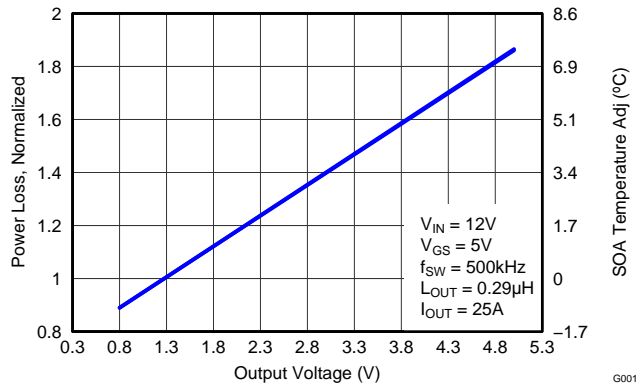

Figure 7. Normalized Power Loss vs Output Voltage
- Normalized Power Loss for output voltage \approx 0.94 (Figure 7)
- SOA adjustment for output voltage \approx -0.5°C (Figure 7)